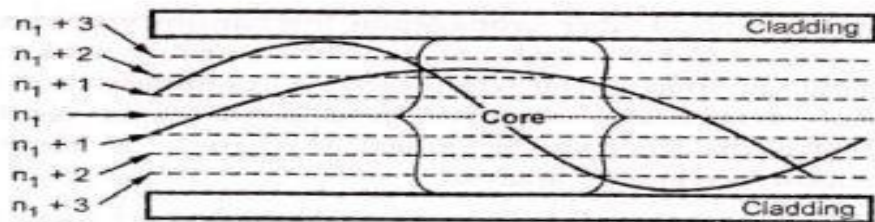

Fig. 1.6.19 Light trajectories in a graded index fiber
- Fig 1.6.19 shows the light trajectory in detail. It is seen that light rays running close to the fiber axis with shorter path length, will have a lower velocity